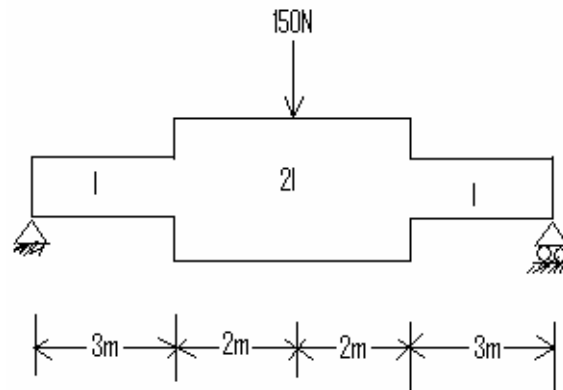

Figure.4
b) Using Moment Area method, find the mid span deflection of the beam shown in Figure.4. Take $E = 200 \text{ GPa}$ and $I = 200 \times 10^{-4} \text{ m}^4$. [7+8]